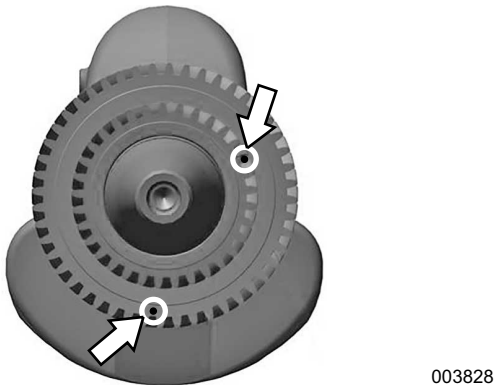

Figure 14-6. Timing Mark Alignment
2. See Figure 14-6. Verify timing marks on balancer gear and cam drive gear are correctly aligned on crankshaft.